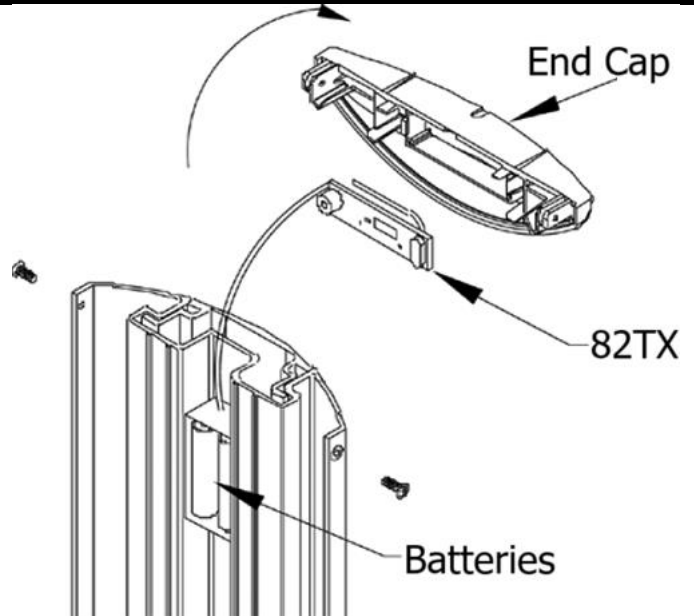

Figure 5: 82TX Installation Diagram
- c. **Wireless:** See Figure 5. The top end cap includes a snap-in compartment for the 82TX transmitter. Place the transmitter in the top end cap, with the wires hanging down and to the front of the top end cap. Using the supplied wire nuts, connect the two activating wires to the 8228-04 lead wires. Slide the battery and the extra wiring into the back center channel of the base unit. Do not slide all the wire into the channel so that the top end cap can hang off on one side while the next step is performed.